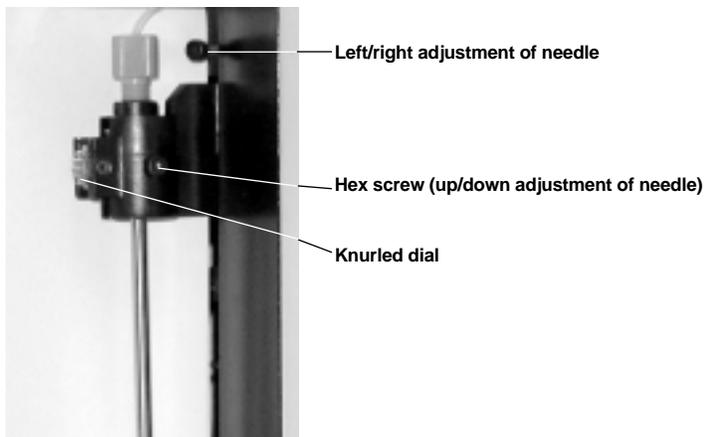

Fig. 16. Sample needle assembly.
10. Using the hex key needle adjustment tool (supplied with the microplate platform), loosen the screw at the top of the needle so that the needle housing can move up and down freely (See Figure 16).